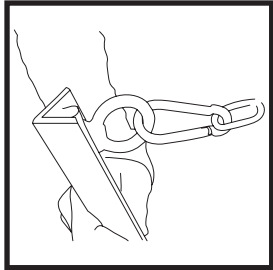

Fig. 13
14. Fasten the corners of the tent to the anchors with loosened up to the maximum tensioning straps (Fig. 13).